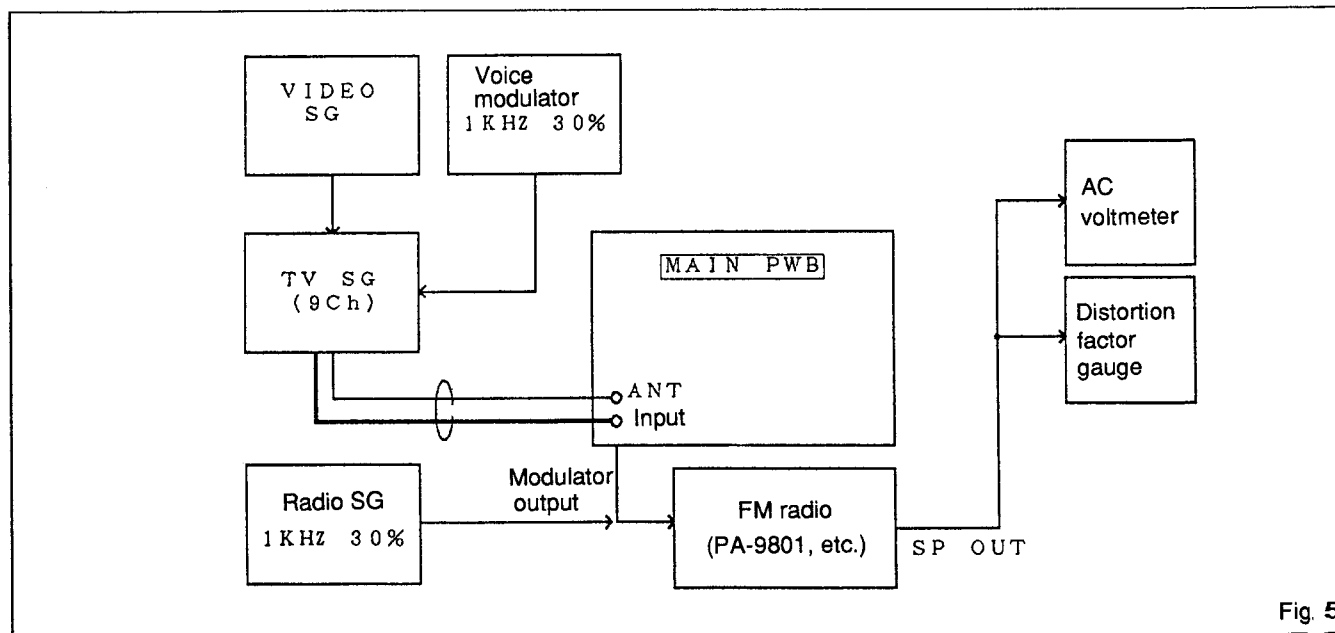

Fig. 5
(1) Prepare and connect the measuring instrument as shown in Fig. 5.
(2) TV SG setting
- (1) Prepare and connect the measuring instrument as shown in Fig. 5.
- (2) TV SG setting